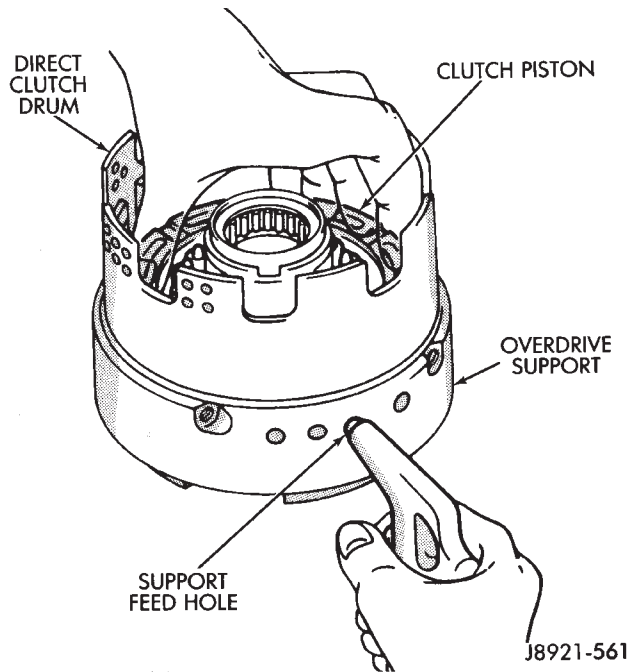

Fig. 7 Removing Direct Clutch Piston
(10) Remove compressor tool and return spring.
(11) Remove clutch piston. Remount clutch on overdrive support (Fig. 7). Apply compressed air through piston feed hole in support to remove piston. Use only enough air to ease piston out.